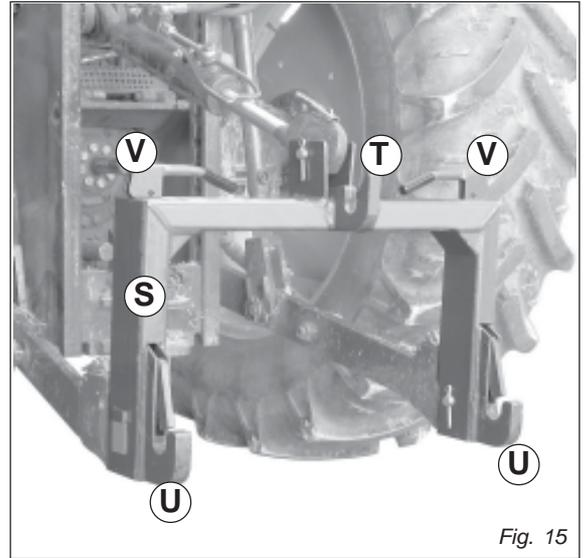
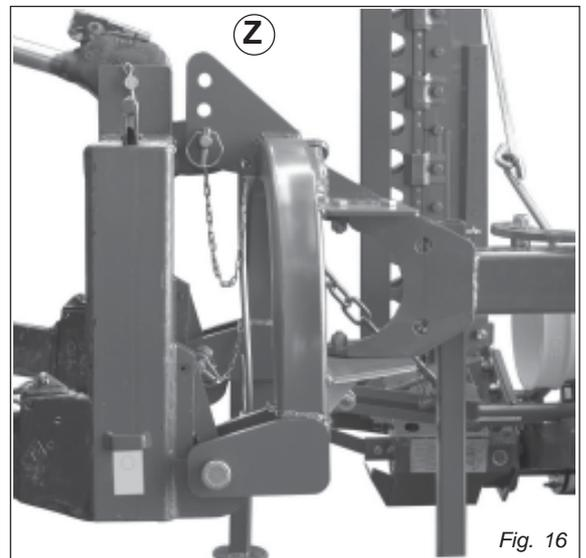

Fig. 15
Fig. 16
- 1) Install hitch Quick Coupler (S, Fig. 15) on the tractor (see tractor operator manual).
- 2) Park the sickle bar on a flat and compact ground supported by the relative supports. Then slowly move the tractor back until the Quick Coupler (S) is in range with the point hitches (T and U, Fig. 15).
- 3) Raise the Quick Coupler (S, Fig. 15) and make sure that sickle bar hitch is in the right position (Z, Fig. 16).
4. Raise the two Quick Coupler levers (V, Fig. 15) to unloch sickle bar (Quick Coupler Figure, page 14).